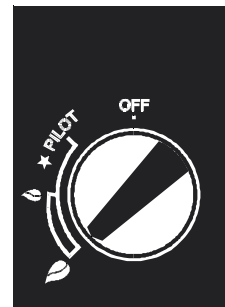

Figure 7 - Maximum Position
2. The preset maximum (as shown in **Figure 7** is found by turning the control knob fully anti-clockwise. The control is infinitely variable between the two preset limits.